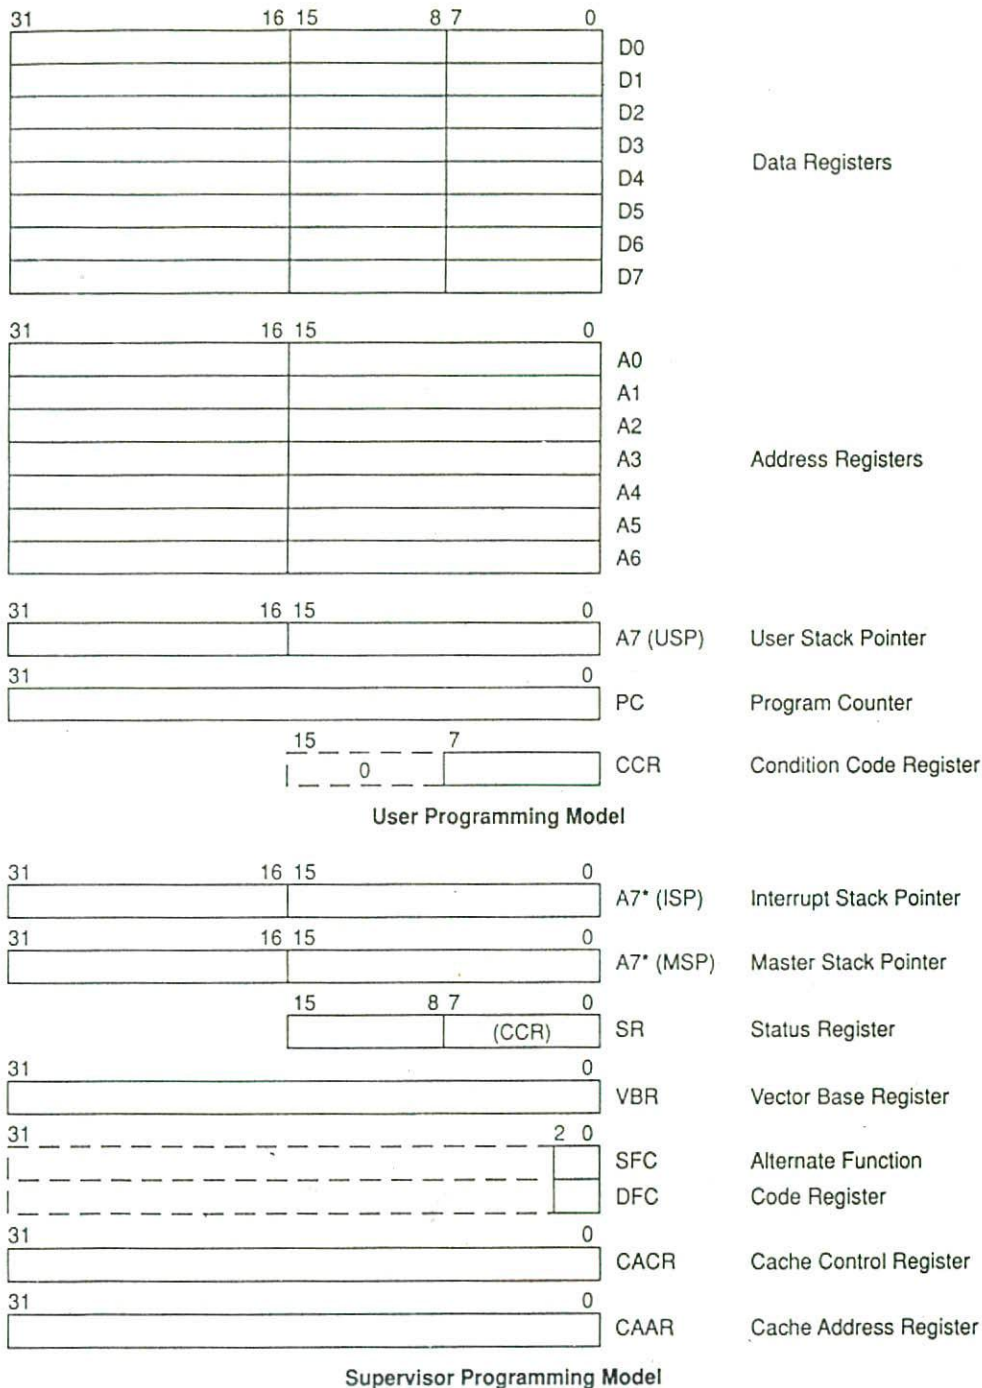

FIGURE 6.1 MC68020 programming model.
Figure 6.1 shows the MC68020 programming model. The user model has sixteen 32-bit general-purpose registers (D0-D7 and A0-A7), a 32-bit program counter (PC), and a condition code register (CCR) contained within the supervisor status register (SR). The supervisor model has two 32-bit supervisor stack pointers (ISP and MSP), a 16-bit status register (SR), a 32-bit vector base register (VBR), two 3-bit alternate function code registers (SFC and DFC), and two 32-bit cache handling (address and control) registers (CAAR and CACR). General-purpose registers D0-D7 are used as data registers for operation on all data types. General-purpose registers A0-A6, user stack pointer (USP) A7, interrupt stack pointer (ISP) A7', and master stack pointer (MSP) A7'' are address registers that may be used as software stack pointers or base address registers.